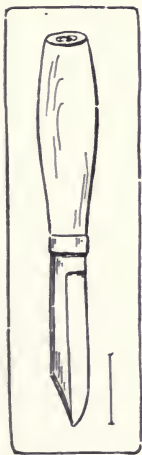

Fig. 84
The *knife* differs from the chisel in two respects, (1) the edge is along the side instead of the end, and (2) it has a two-beveled edge. Knives are sometimes made with one side flat for certain kinds of paring work, but these are uncommon. The two-beveled edge is an advantage to the worker in enabling him to cut into the wood at any angle, but it is a disadvantage in that it is incapable of making flat surfaces. The knife is particularly valuable in woodwork for scoring and for certain emergencies. The sloyd knife, Fig. 84, is a tool likely to be misused in the hands of small children, but when sharp and in strong hands, has many valuable uses. A convenient size has a 2½ inch blade. When grinding and whetting a knife, the fact that both sides are beveled alike should be kept in mind.